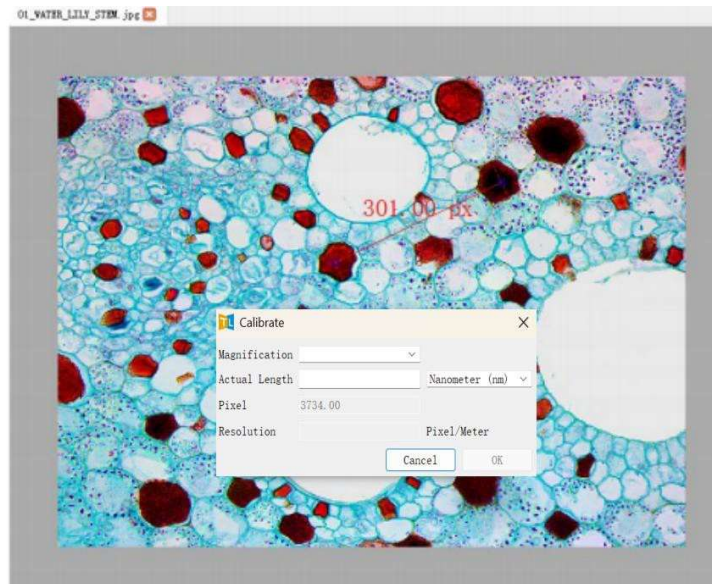

Figure 6-6 Example of Calibration Interface
- 2) When AccuView LITE enters the calibration mode, the video/image window displays the calibration line and calibration window, as shown in Figure 6-6. The software will display the pixel value occupied by the calibration line;